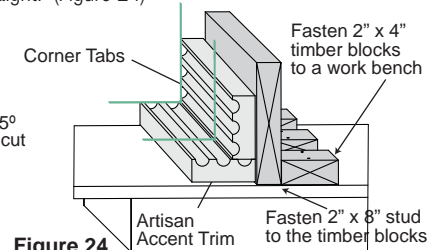

Figure 24
- TIP: Creating a jig for the work station is recommended to ensure the corners are fastened securely and straight. (Figure 24)